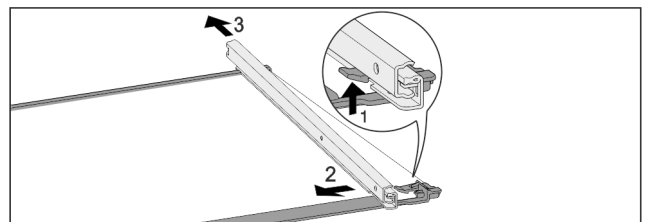

Fig. 186 Glass shelf with rails
- ▶ Push up front click-in hooks. Fig. 186 (1)
- ▶ Move the pull-out rails to the side Fig. 186 (2) and to the rear Fig. 186 (3).